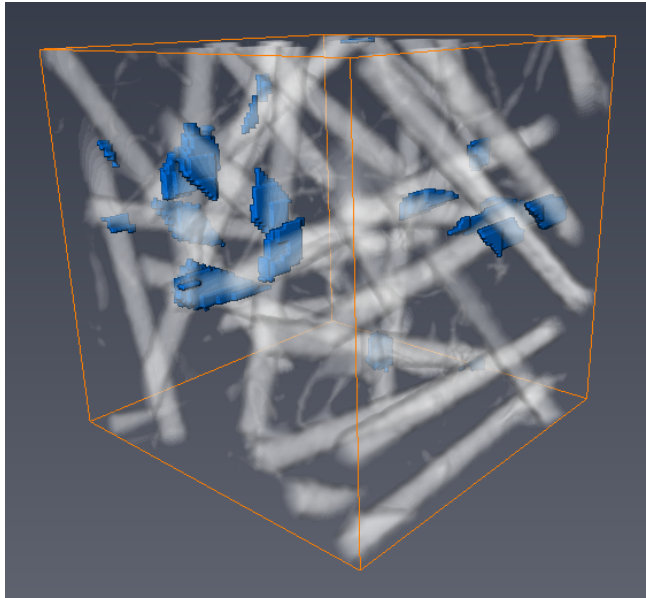

Figure 10.21: Identified Contact Points
10. Contact points are now identified. Attach the *voxelized rendering* module to *concrete.interfaces* (see Figure 10.21).